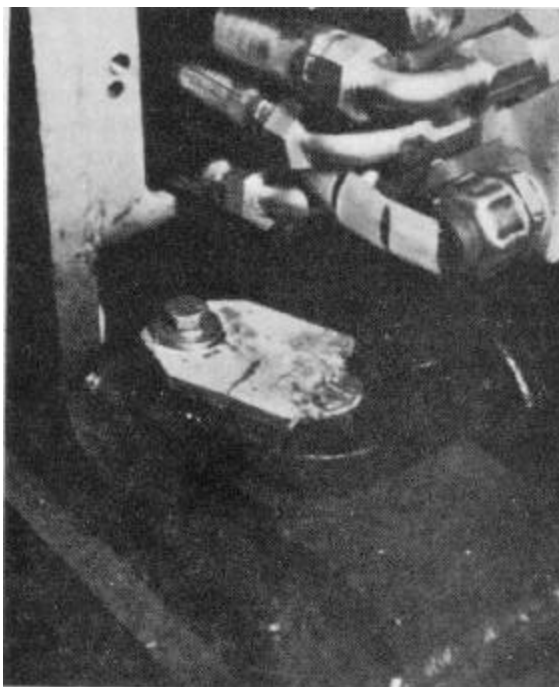

Figure 5-107
17. Remove the two (2) shift cylinder hydraulic hoses from the cylinder. Use a 3/4 inch wrench. Plug and cap fittings and hoses. Tag hose assemblies for later identification.
18. Remove the hex head cap screw, from the shift cylinder pin (Fig. 5-107). Use a 9/16 inch wrench. Pry the pin free of the shift cylinder piston end clevis.